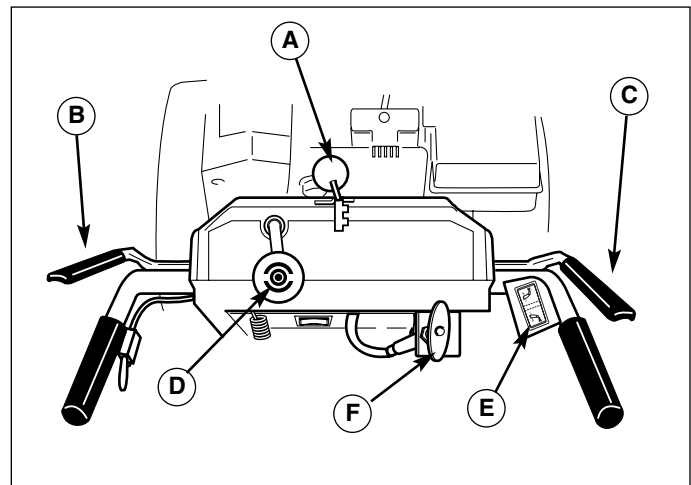

Figure 2. Controls (from operator's position)
7. Check the drive control (B, Figure 2), and auger control (C) for proper operation. If adjustment is required, see the service section for procedures.
8. Check the chute direction control (D or E Figure 2) for proper operation. The discharge chute should rotate freely in both directions. See the service section for adjustment procedures and troubleshooting.
9. Check the chute deflector (F, Figure 2) for proper operation. The deflector should pivot freely up and down when the chute deflector knob is loosened.
11. Check the speed selector (A, Figure 2) for smooth operation. The control must move freely into each speed position gate and remain in position when released. If the speed selector does not move freely into all forward and reverse speed positions, contact your local authorized dealer for assistance.
3. Fully press and hold the auger engage control (C, Figure 2) on the right-hand grip to begin auger rotation. Releasing the auger engage control will disengage the auger —**unless the Free-Hand™ Control has been activated (See step 5 below).**
4. Fully press and hold the traction & Free-Hand™ Control lever (B, Figure 2) on the left-hand grip to engage the traction drive and begin moving the snowthrower. To disengage the traction drive, completely release the lever.
6. Select forward or reverse speeds as needed using the Speed Selector (A, Figure 2). Release both control levers before changing drive speeds.
Use the speed selector (A, Figure 2) to control the drive speed of the snowthrower. There are five forward speeds and two reverse speeds.
To change speeds, release both control levers (B, Figure 2), then move the speed selector to the desired setting. Fully depress the control levers to resume.